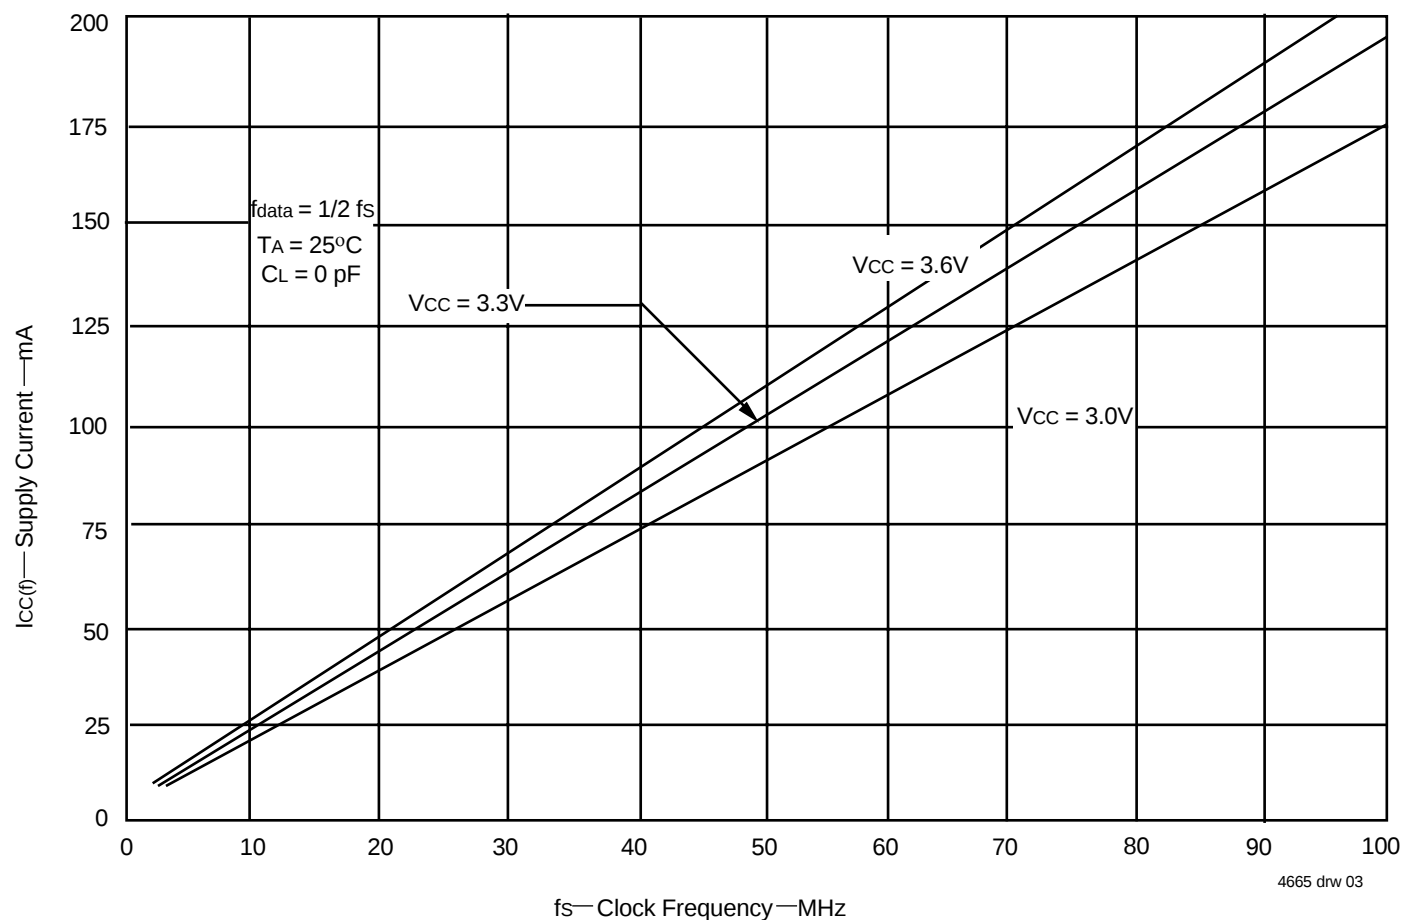

Figure 1. Typical Characteristics: Supply Current (I_{CC}) vs. Clock Frequency (f_s)
- For additional I_{CC} information, see Figure 1, *Typical Characteristics: Supply Current (I_{CC}) vs. Clock Frequency (f_s)*.
The $I_{CC(f)}$ current for the graph in Figure 1 was taken while simultaneously reading and writing a FIFO on the IDT72V3626/72V3636/72V3646 with CLKA, CLKB and CLKC set to f_s . All data inputs and data outputs change state during each clock cycle to consume the highest supply current. Data outputs were disconnected to normalize the graph to a zero capacitance load. Once the capacitance load per data-output channel and the number of these device's inputs driven by TTL HIGH levels are known, the power dissipation can be calculated with the equation below.
With $I_{CC(f)}$ taken from Figure 1, the maximum power dissipation (P_T) of these FIFOs may be calculated by: